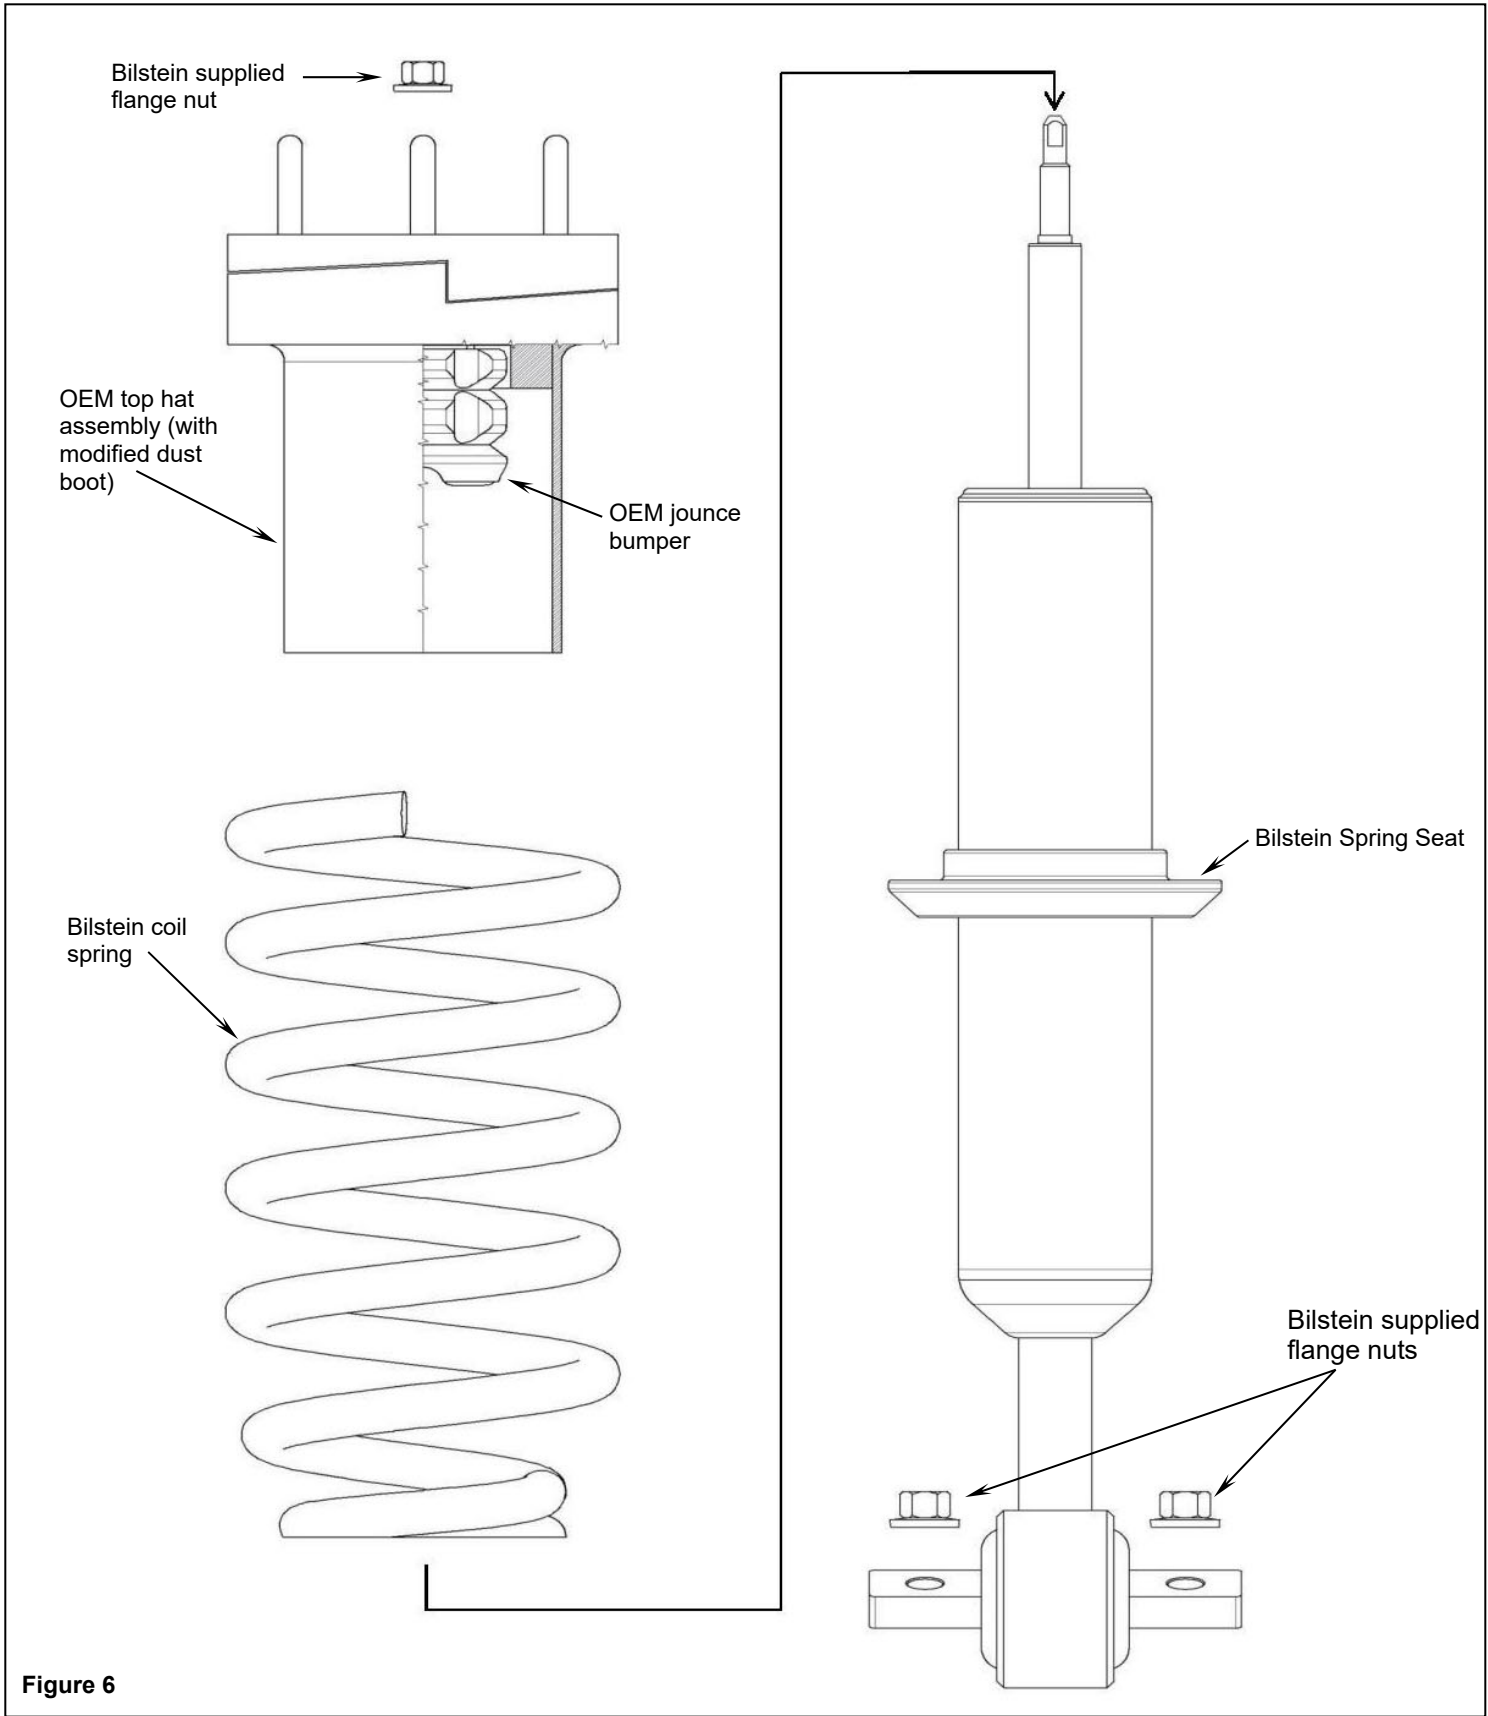

Figure 6
- G. Using an appropriate spring compressor, compress the Bilstein coil spring and assemble it with the new Bilstein shock. Ensure that the Bilstein coil spring is installed in the direction shown only. Refer to Figure 6.
- H. Install the OEM top hat assembly (which includes the modified OEM dust boot, OEM top mount plate, and OEM jounce bumper) over the threaded stem on the new Bilstein shock and on top of the spring. Refer to Figure 6.
- K. Install the provided new Bilstein flange nut onto the piston rod tenon and tighten to 25 Nm (19 lb/ft). Refer to Figure 6 (shown above the top hat assembly). Use a 6mm wrench to keep the piston rod from rotating while torqueing the nut.